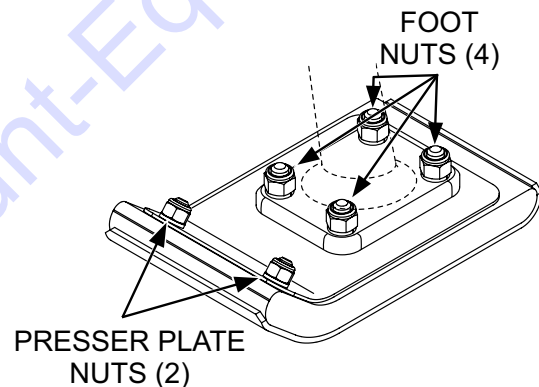

Figure 10. Foot/Presser Plate Check
1. Check tightness of foot and presser plate nuts (Figure 10). Torque foot nuts (4) to 57.9 ft.-lbf (78.4 N·m) and the presser plate nuts (2) to 21.6 ft.-lbf (29.4 N·m).